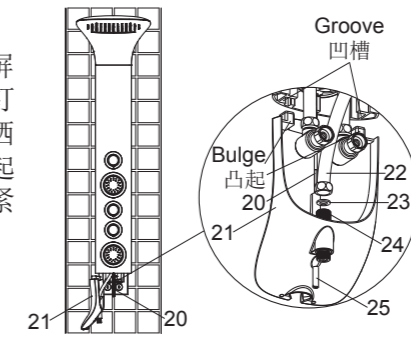

Fig.8
As Fig.8 shown, screw the screw(20) into the screw hole below the shower panel. Slide the shower bracket(21) onto the screw(20). Connect the hose (22) with the washer(23) to the inlet(24) of the shower bracket. Install the shower bracket with the bulges of its being situated into the grooves of the shower panel. Tighten the nut(25) onto the screw(20) to secure the shower bracket.